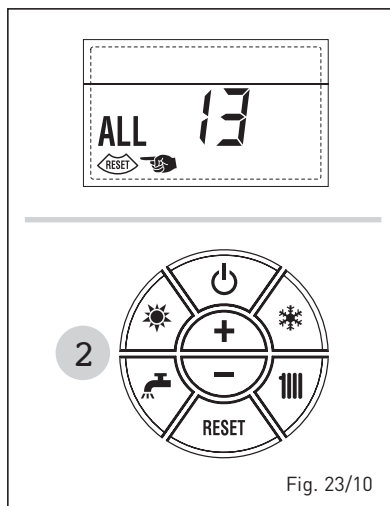

Fig. 23/10
– **“ALL 14” EXHAUST FUMES PROBE ERROR (fig. 23/11)**